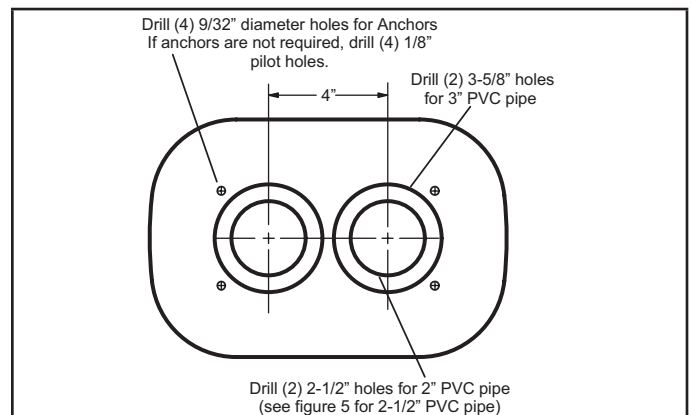

FIGURE 2
- 4 - Using the template as a guide, drill two 3-5/8" holes for 3" PVC pipe or two 2-1/2" holes for 2" PVC and 2-1/2" PVC pipe. For 2-1/2" PVC installations transition to 2" PVC and install into flush-mount as shown in figure 5. Do not vary from the template. All dimensions are critical. There must be 4" center line to center line for either 3" pipe or 2" pipe. See figure 2.